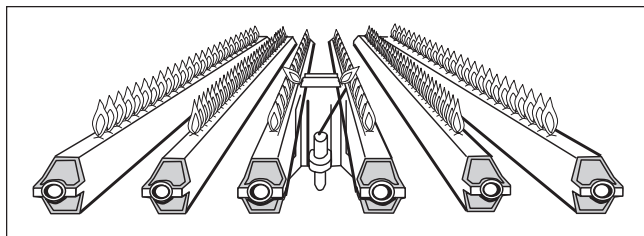

Figure 16. Main Burner Flame Pattern.
2. At start-up and every six (6) months thereafter, the pilot and main burner flame should be observed for proper performance (see Figure 16). See attached lighting and shut-down instructions for proper pilot flame pattern. If flame has the appearance of "sooting" tips, check for debris near orifices and call the Pentair Water commercial Pool and Spa technical support (see page 2).